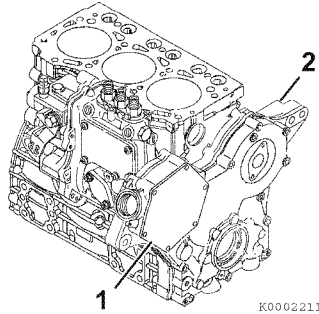

Figure 7-15
- Remove the fuel injection pump drive gear access cover (Figure 7-15, (1)) from the gear case cover (Figure 7-15, (2)).